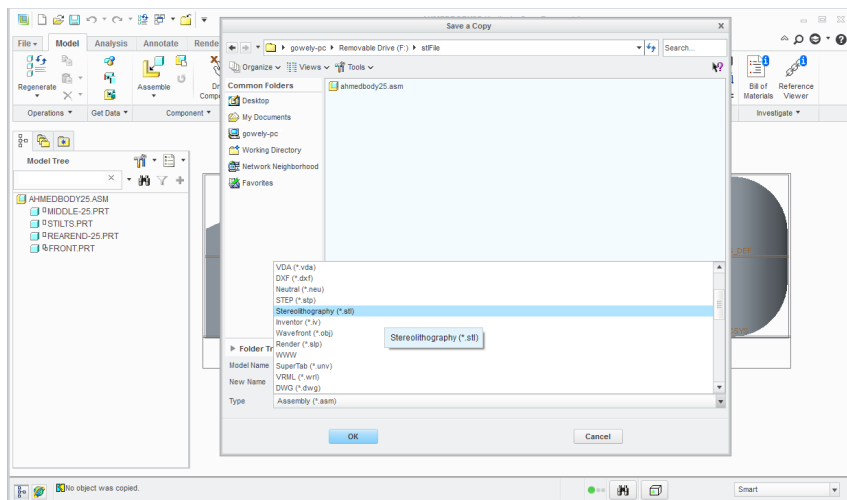

Figure 1.11: Step 10, Saving as .stl
10. File → save as → type stereolithography (*.stl), as shown in figure 1.11.